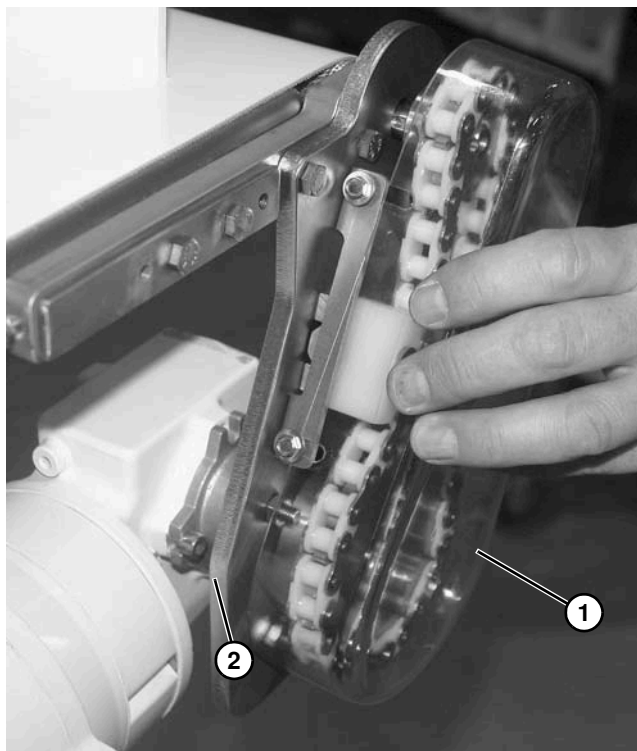

Figure 56
2. Remove cover (Figure 56, item 1).